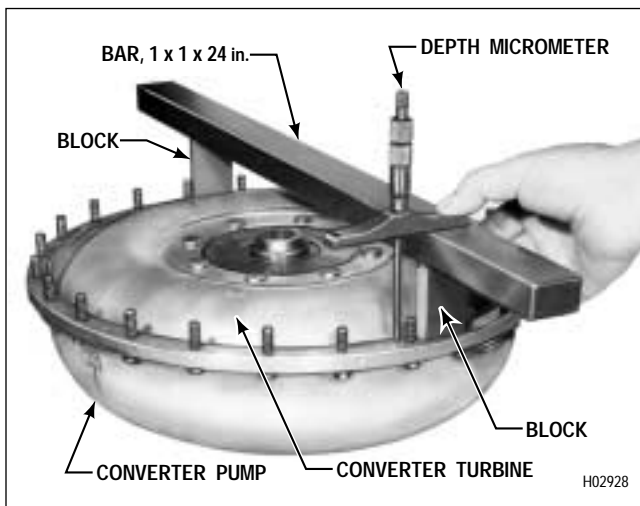

Figure 6-15. Measuring Dimension C for Selection of Converter Spacer (AT 543)
(22) Position the bar and two blocks as shown in Figure 6-15. Measure the distance from the top of the bar to the mounting surface of the converter pump (between bolts). Record this Dimension as **C**.